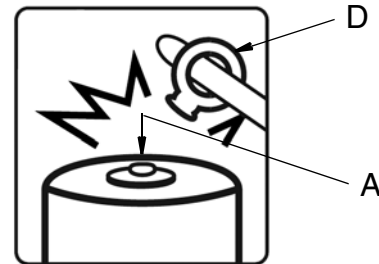

FIG. 10
4. When the activator is screwed in hand tight, insert a suitable tool through the top ring (D). Continue to tighten the activator until the ring breaks off at the intended breaking pint (A) (FIG. 10).